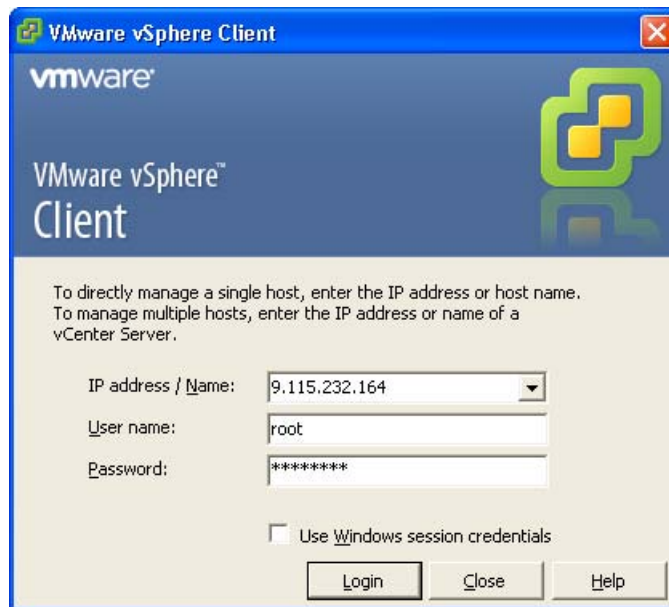

Figure 3-23 VMware vSphere login window
3. After the vSphere client software is installed, start the vSphere client. Enter the IP address and credentials of vCenter for the source machine in the login window, as shown in Figure 3-23. Click **Login**.